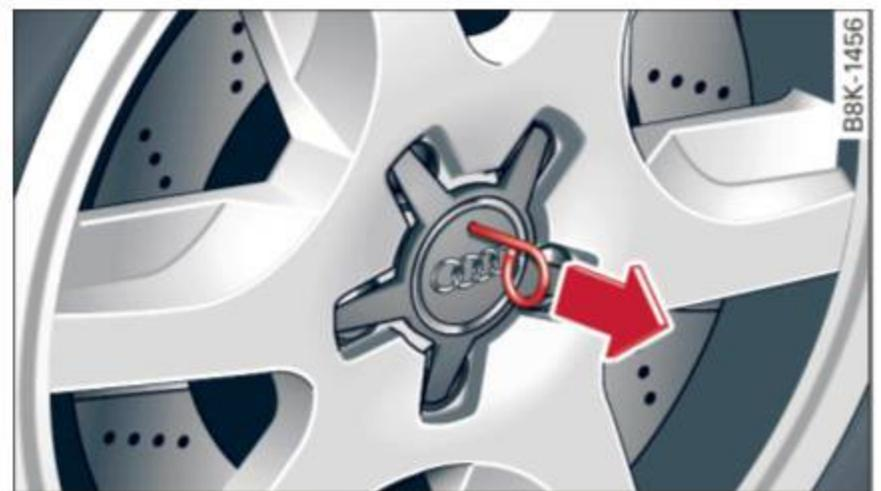

Fig. 175 Changing a wheel: removing the wheel cover
- ▶ Pull off the **decorative wheel cover** ⇒ *fig. 175*.